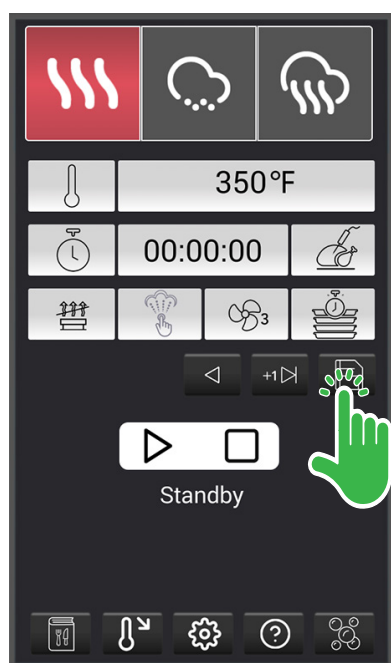

Fig. 32
- Once the recipe has been reviewed and confirmed accurate, touch the Save button (Fig. 32). The **Recipe Folder Selection Screen** will be displayed.